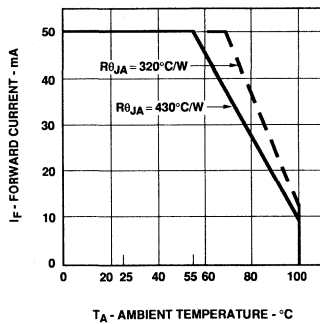

Figure 5. Maximum Forward DC Current vs. Ambient Temperature.
- Derate linearly as shown in Figure 5.